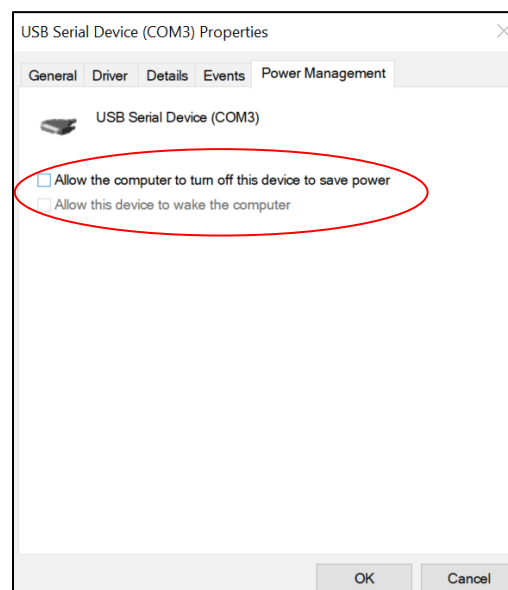

Figure 19: Allow Computer to Turn Off USB Port Window
- Double-click the USB port identified in the previous step to open its properties. If your computer shows a **Power Management** tab on the top, select that tab. Uncheck the option **Allow the computer to turn off this device to save power**. Then press **OK** to apply the changes and close this window. Refer to Figure 19.